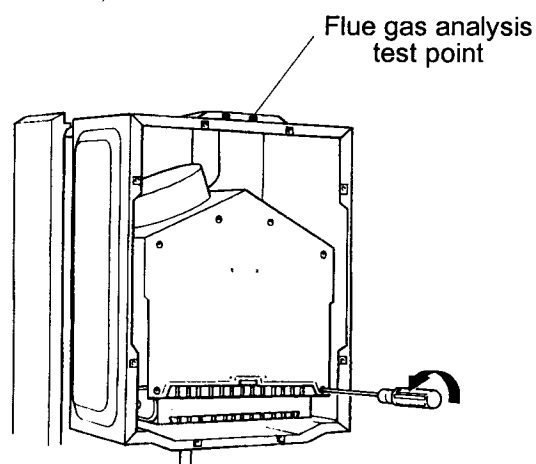

Fig. 27
NOTE: There is a flue gas analysis test point incorporated in the flue outlet. (see fig. 27)
- 8.7.3** Remove front combustion chamber by releasing six screws (fig. 27).